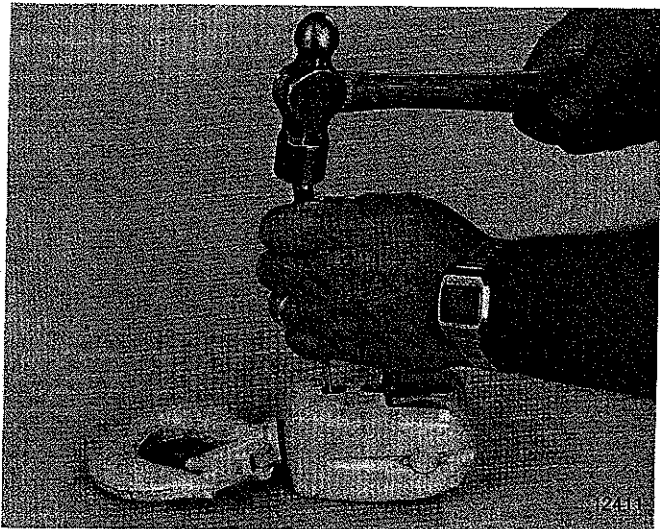

Figure 6-6. Driving Grooved Pin from Hook Nut
c. Align grooved pin in hook nut with hole in block body and drive out pin with a drift punch. See Figure 6-6.